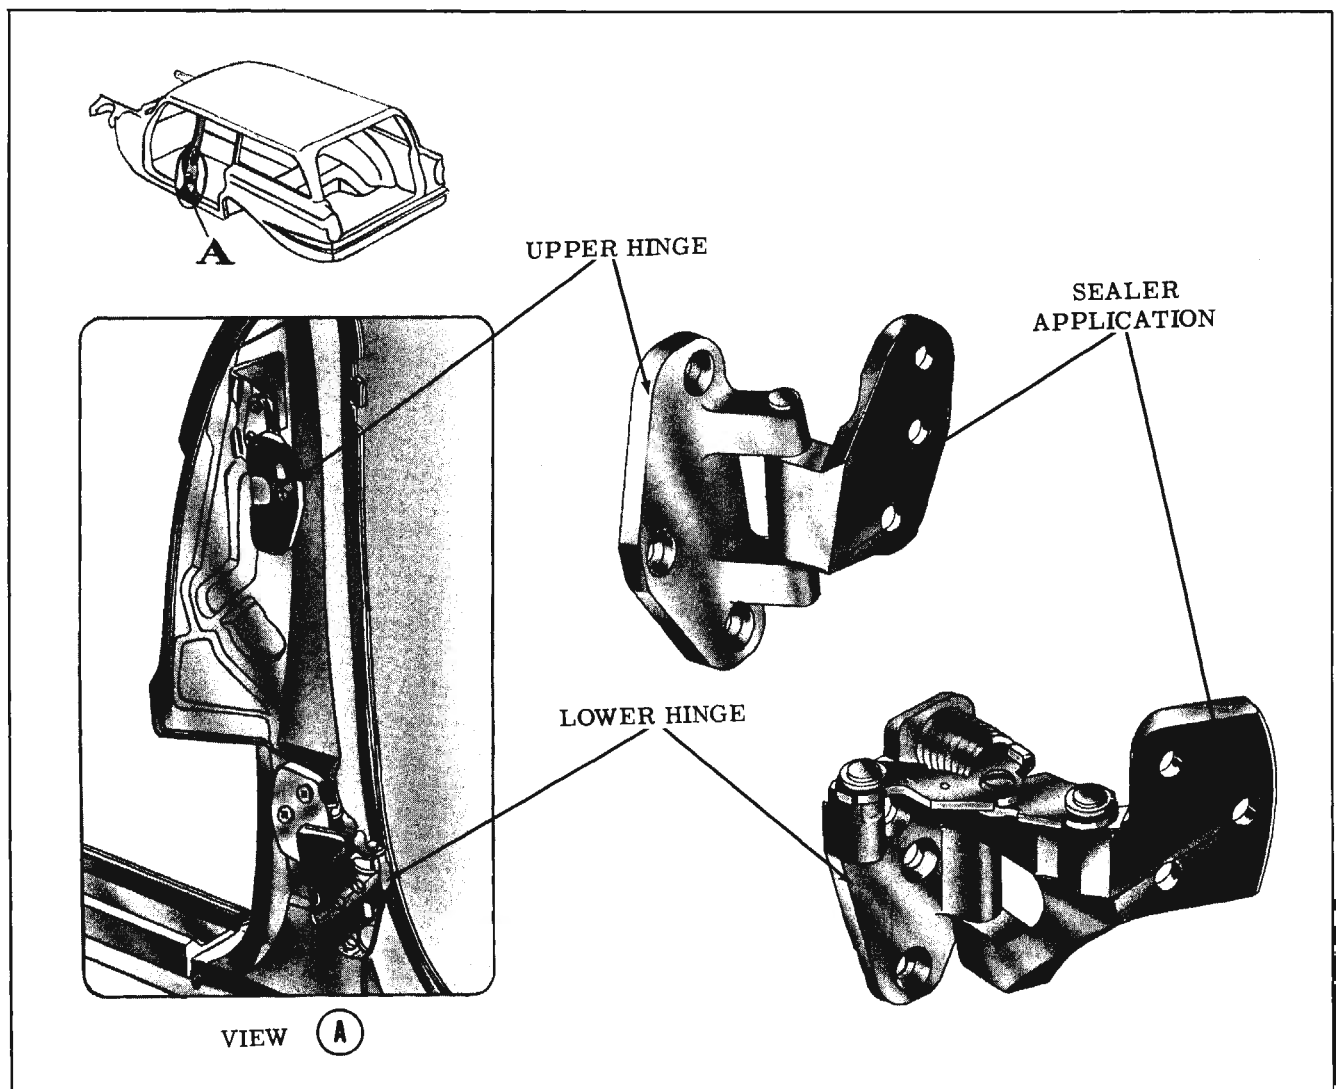

Fig. 16-256 Rear Door Hinge Assemblies
2. As an anti-squeak precaution and to prevent entry of water at hinge attaching locations, apply a coat of heavy bodied sealer to attaching surfaces of hinges. Fig. 16-256 shows